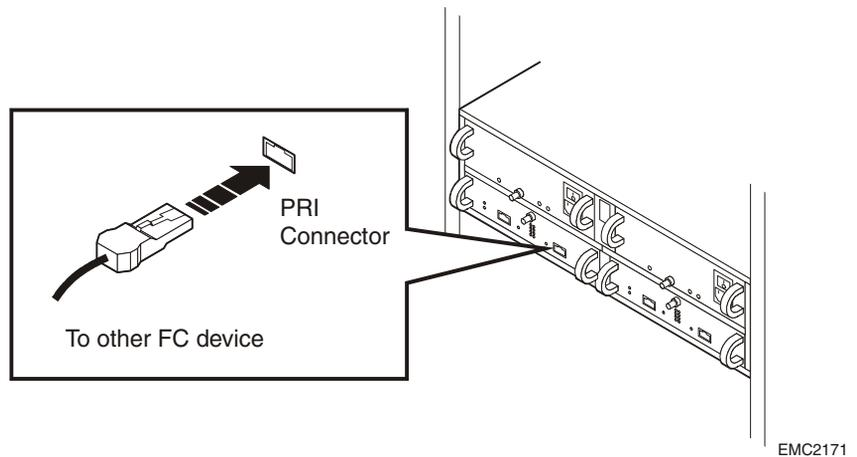

Figure 3-13 Reconnecting a Copper Cable to an LCC
3. Reattach the copper cables to the same connector from which you removed them, as shown in Figure 3-13.